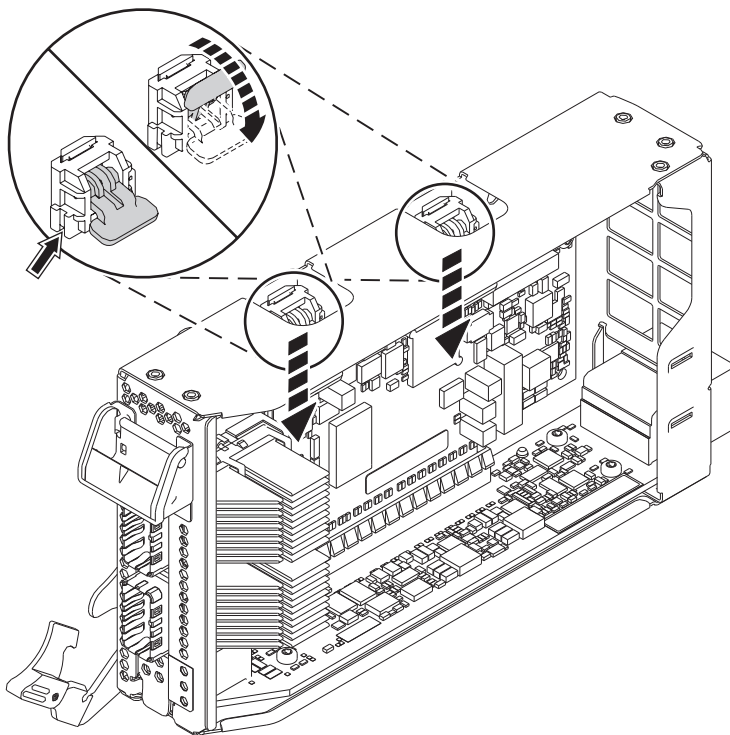

Figure 43. Locking the cassette ratchets
- d. Rotate the cassette ratchets that are at the top edge of the cassette to lock the adapter in place. See Figure 43.